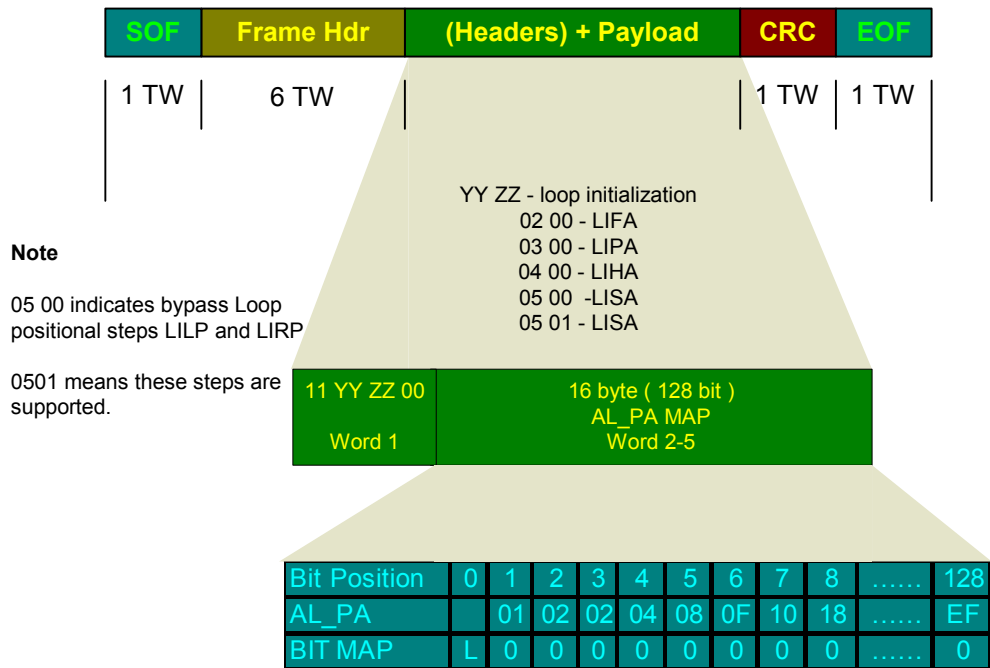

Figure 20 LIFA / LIPA / LIHA / LISA frames
This section describes the loop initialization steps. Figure 20 on page 37 shows LIFA / LIPA / LIHA / LISA frames.
Step 1. The first step in the AL_PA assignment is the LIFA (Loop Initialization Fabric Address) which basically allows public ports that had previously been logged in with the fabric (FL_Ports) to reclaim the AL_PA they had been using prior to loop initialization. The temporary loop master first initializes the AL_PA bitmap to all '0's and builds the LIFA frame with this bitmap in payload words two through five and the loop initialization identifier in word 1, as is shown in Figure 20.